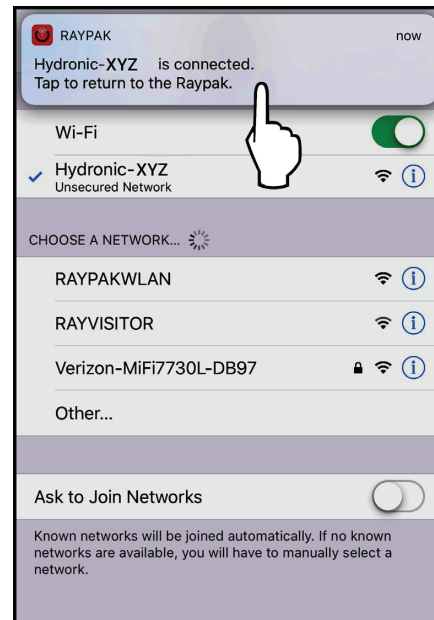

Figure 95. Connection Notification
- A notification tab will confirm that iPhone is now connected to the unit. Press the notification tab or manually go back to the Raymote mobile iPhone app to continue. See **Figure 95**.